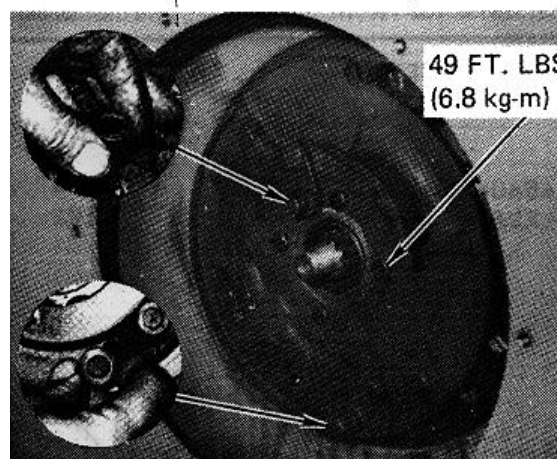

FIGURE 10-3.
b. Install backing plate capscrews and torque to 49 ft.-lbs. (6.8 kg-m). Then install rollers on both actuator cranks (see figure 10-3).